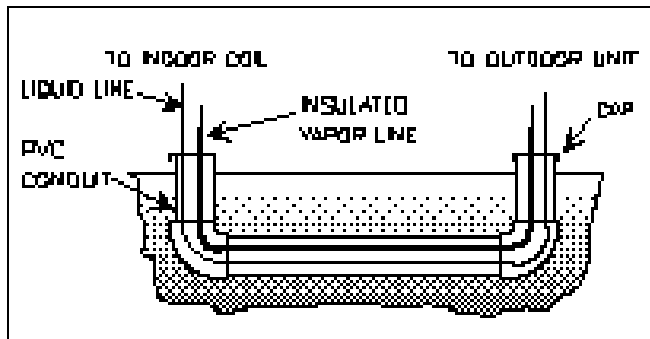

FIGURE 4 : UNDERGROUND INSTALLATION
5. Use PVC piping as a conduit for all underground installations as shown in Figure 4. Buried lines should be kept as short as possible to minimize the build up of liquid refrigerant in the vapor line during long periods of shut-down